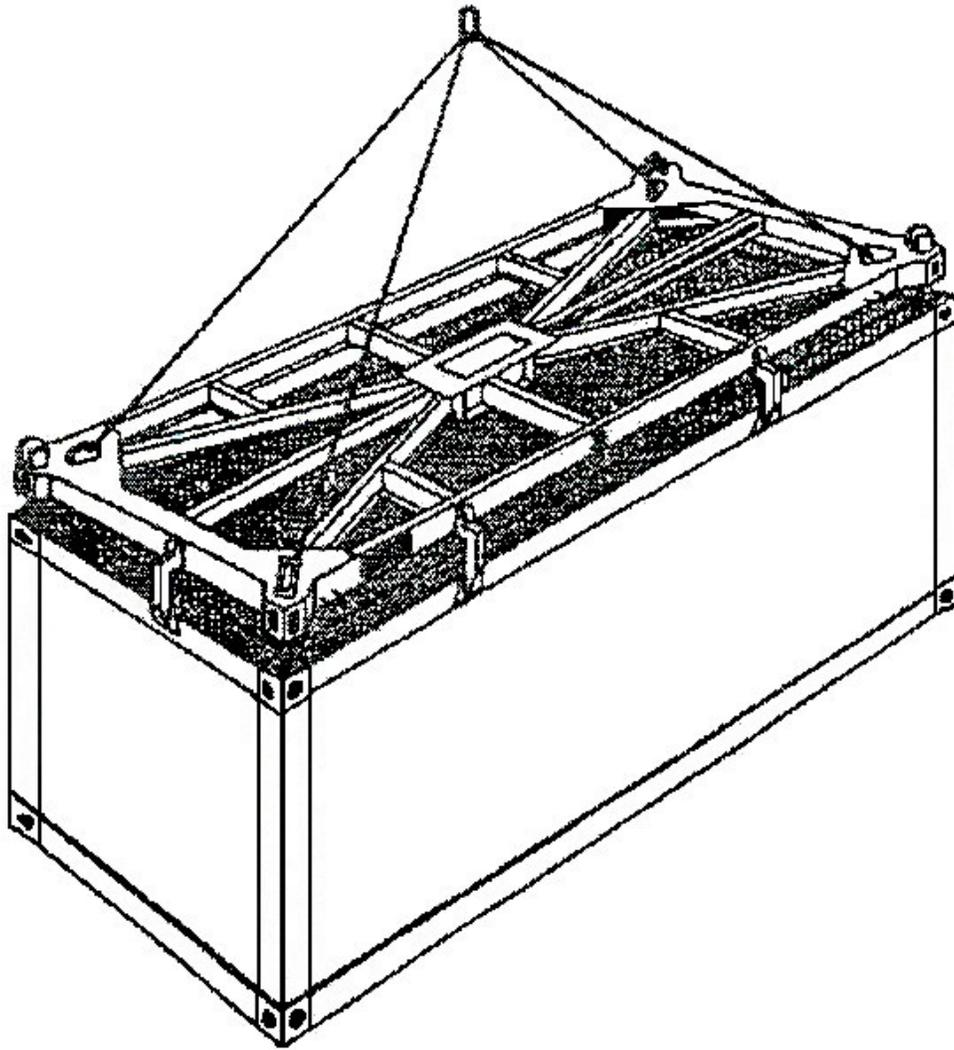
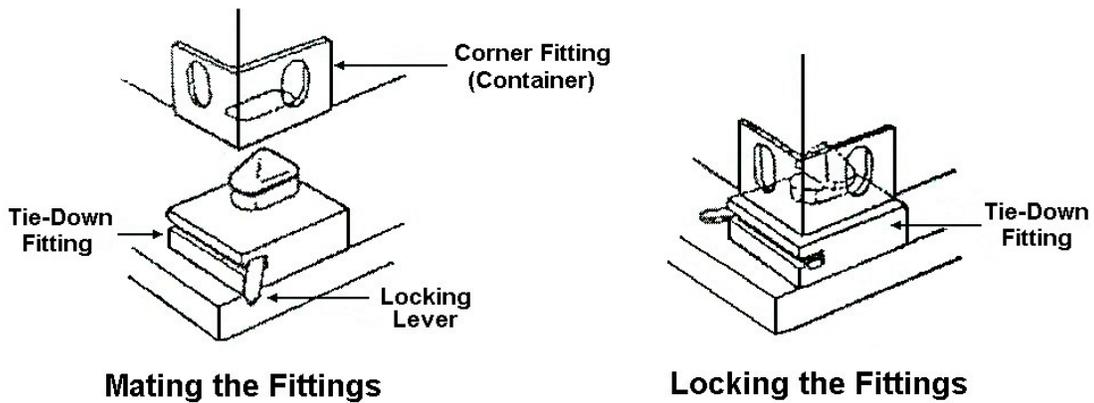

Figure 3-49
Figure 3-50
- e. Attach semiautomatic toplift spreader device to the container (see Figure 3-49).
- (1) Attach the toplift spreader to the cargo hook.
- (2) Signal the crane operator to hoist the toplift spreader.
- (3) Signal the crane operator to lower the spreader device, which has tag lines attached, onto the container.
- (4) Secure the device to the four corners of the container (see Figure 3-50).
- (5) Engage twist locks.
- (6) Disengage the container bottom twist locks.
- (7) Signal the crane operator to hoist the container.